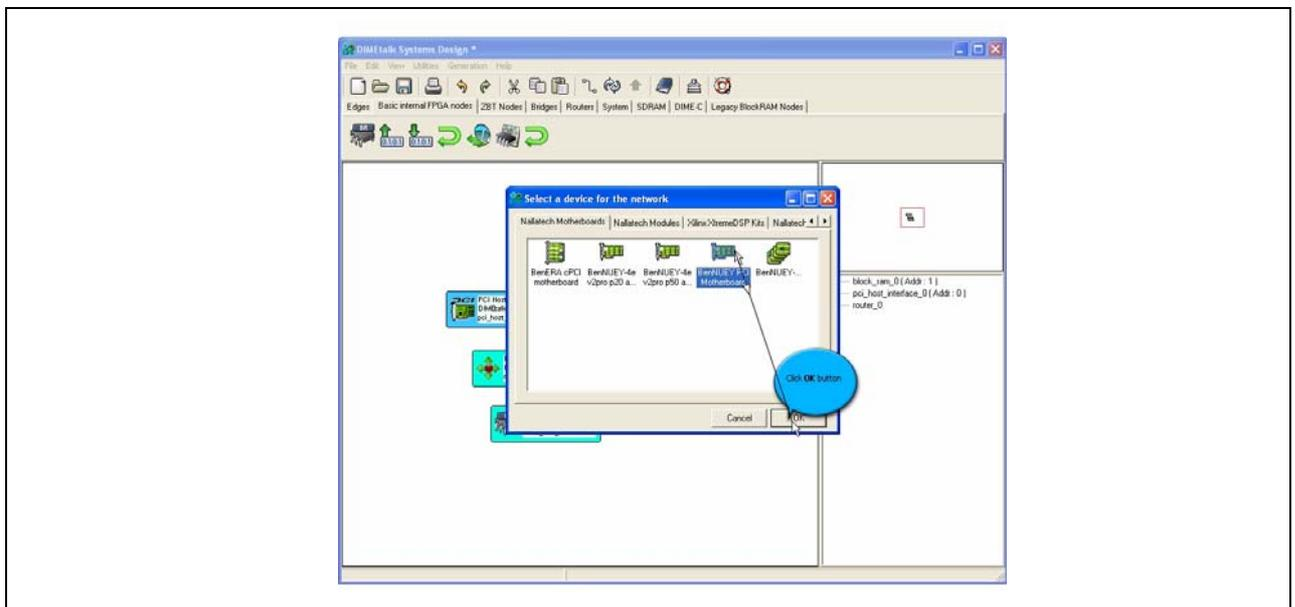

Figure 12: Device Selection
- 7. In the device selection window shown in **Figure 12** select the BenNUEY-PCI motherboard and press 'OK'.